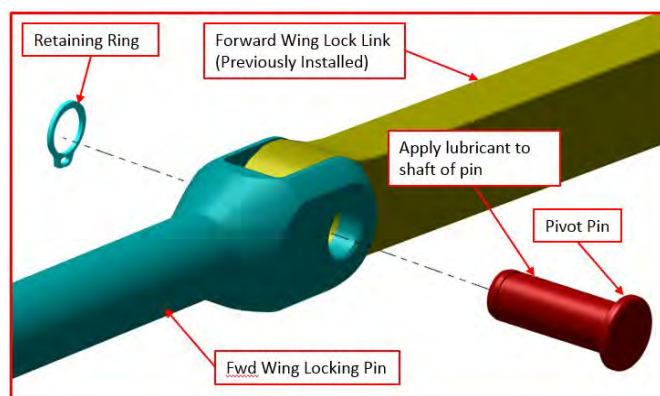

FIGURE 18-9
- g. Attach the ICA008143 and ICA008148 link rods to the handle and locking pins. Coat each ICA008144 pivot pin with MOLYKOTE™ on assembly. See Figure 18-9 for a typical installation. Verify correct pin orientation; the retaining rings are installed on the same side as the wing lock bushing flange and mounting boss flange. Also, note that the longer the two links and the longer the two locking pins connect and face aircraft forward, and the shorter the two, face aircraft rearward.